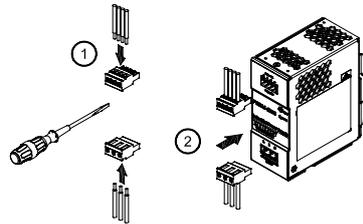
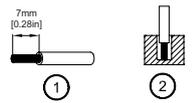

Figure 4
Figure 5
You can use flexible (stranded wire) or solid wire with cross section 0.52-3.3 mm² (AWG 20-12) and torque of 0.46Nm (4.05lb in). To secure reliable and shock proof connections, the stripping length should be 7 mm [0.28 in] (see Fig. 5 (1)). Please ensure that wires are fully inserted into the connecting terminals as shown in Fig. 5 (2). Caution: "Must tighten wire to terminal block (Fig.4 (1)) before plugging into the terminal block connection (Fig.4 (2))"